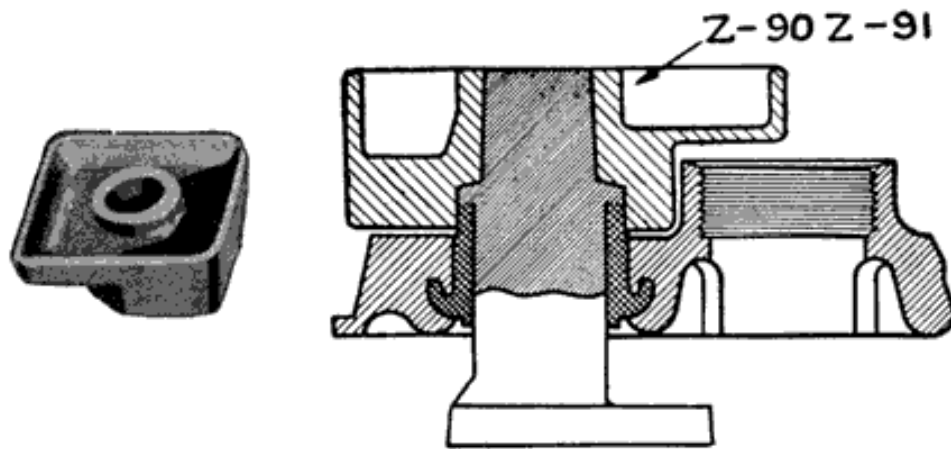

Fig. 285. Willard Burning Form
11. If the terminal posts are made for clamp terminals, build up the posts by using Willard burning form Z-90, for the positive posts and Z-91 for the negative posts (Fig. 285).